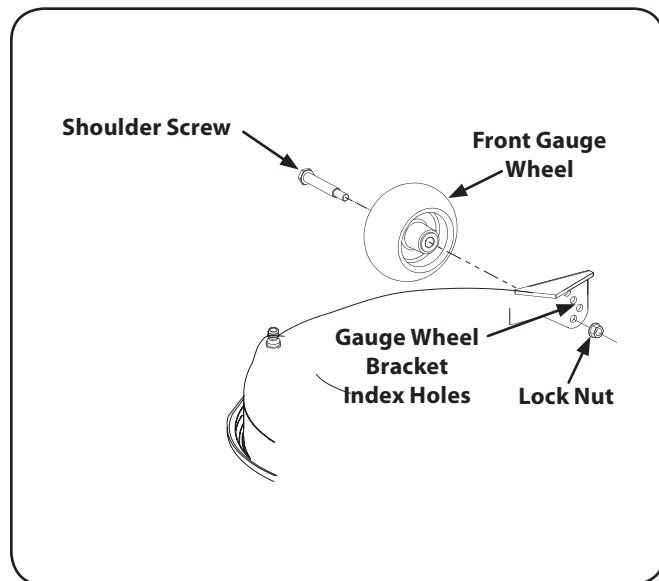

Figure 6-8
2. Remove the lock nut securing one of the front gauge wheel shoulder screws to the deck. Remove the gauge wheel and shoulder screw. Refer to Figure 6-8.